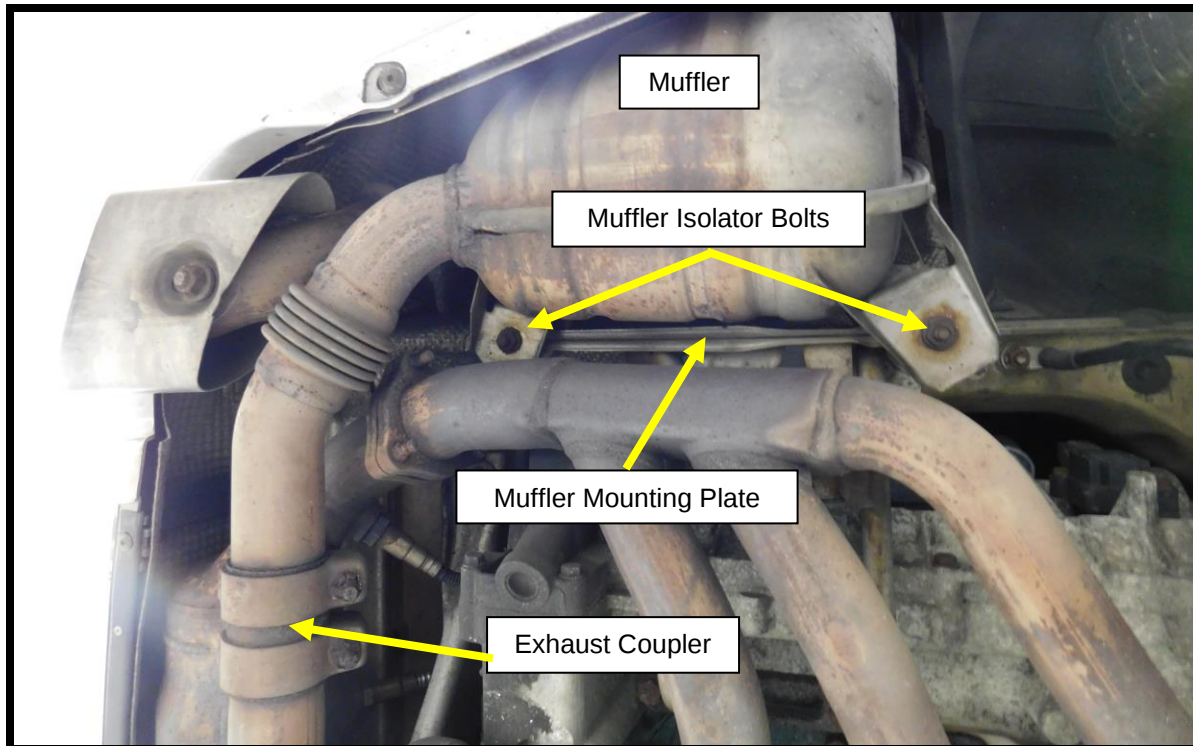

Figure 1
4. Remove the exhaust couplers from the pipe between the catalytic converter and the muffler. Loosen the Bolts on the couplers and slide the couplers on to the catalytic converter pipe and off the muffler inlet pipe (**Figure 1**).
5. Remove the (x3) nuts from the muffler mounting plate from behind the muffler (**Figure 1**).